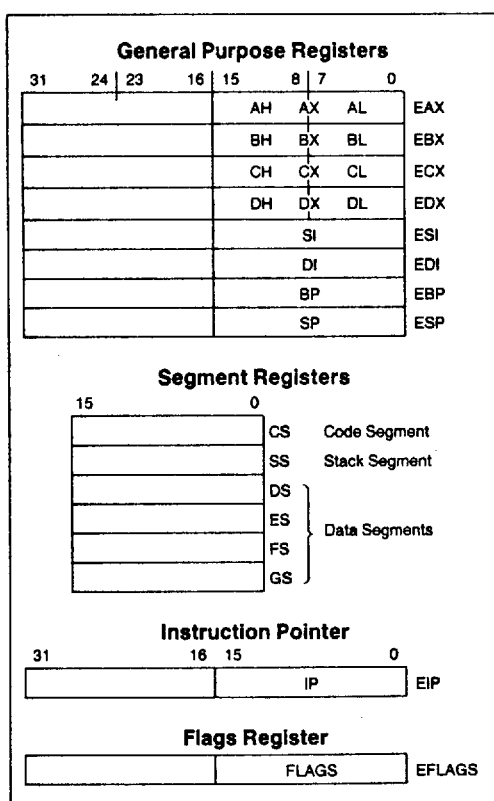

Figure 2.1. Base Architecture Registers
Figure 2.1 shows the Intel486 SX microprocessor/Intel OverDrive Processor base architecture registers. The contents of these registers are task-specific and are automatically loaded with a new context upon a task switch operation.
The eight 32-bit general purpose registers are shown in Figure 2.1. These registers hold data or address quantities. The general purpose registers can support data operands of 1, 8, 16 and 32 bits, and bit fields of 1 to 32 bits. Address operands of 16 and 32 bits are supported. The 32-bit registers are named EAX, EBX, ECX, EDX, ESI, EDI, EBP and ESP.
The instruction pointer, shown in Figure 2.1, is a 32-bit register named EIP. EIP holds the offset of the next instruction to be executed. The offset is always relative to the base of the code segment (CS). The lower 16 bits (bits 0–15) of the EIP contain the 16-bit instruction pointer named IP, which is used for 16-bit addressing.